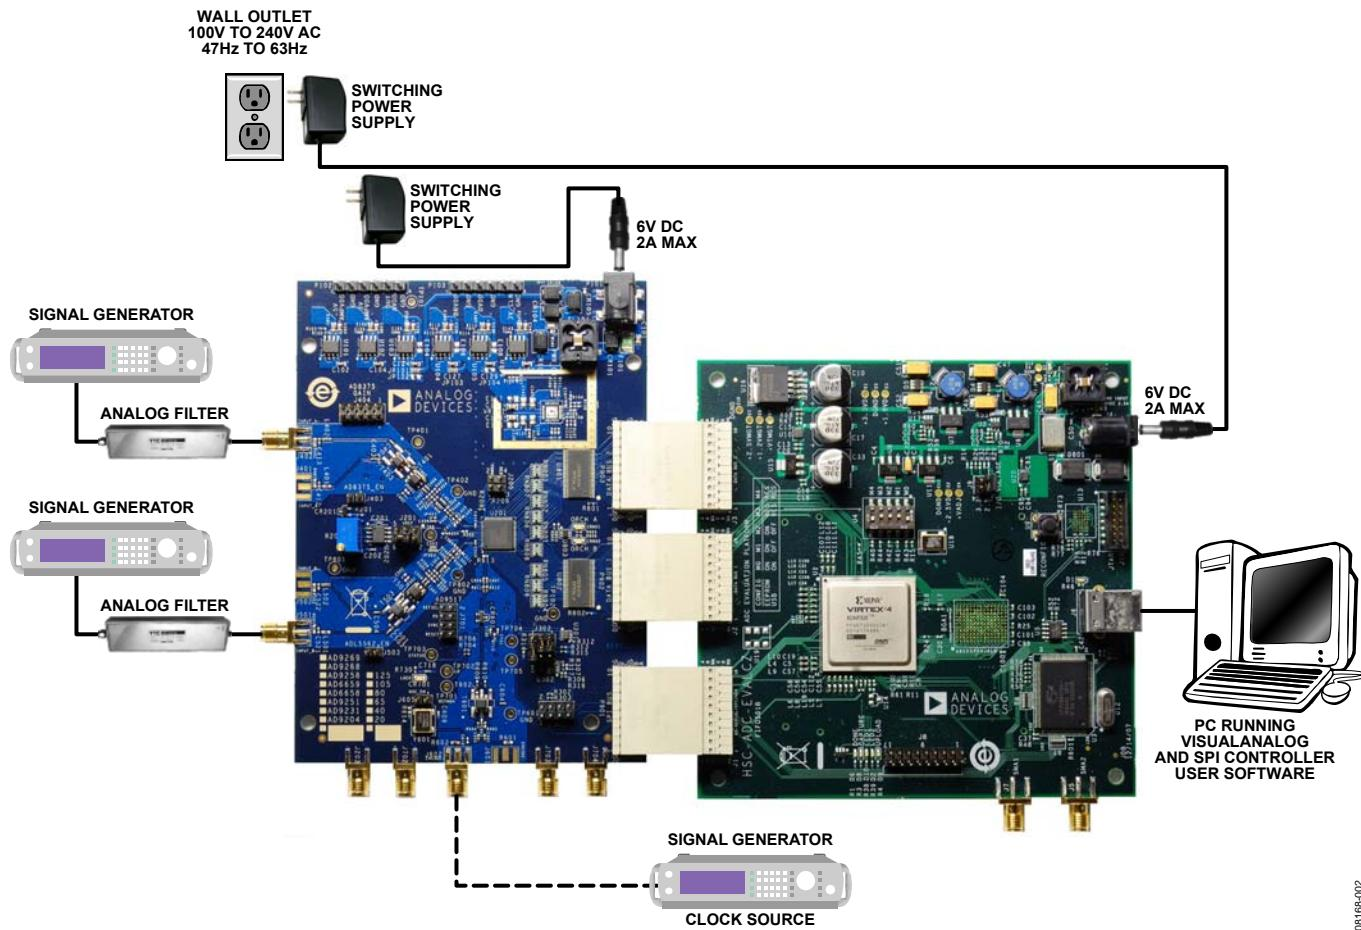

Figure 2. Evaluation Board Connection
The AD9268, AD9258, AD9251, AD9231, and AD9204 evaluation board provides all of the support circuitry required to operate these parts in their various modes and configurations. Figure 2 shows the typical bench characterization setup used to evaluate the ac performance of the AD9268, AD9258, AD9251, AD9231, or AD9204. It is critical that the signal sources used for the analog input and clock have very low phase noise (<1 ps rms jitter) to realize the optimum performance of the signal chain. Proper filtering of the analog input signal to remove harmonics and lower the integrated or broadband noise at the input is necessary to achieve the specified noise performance.
1. Connect the evaluation board to the data capture board, as shown in Figure 1 and Figure 2.